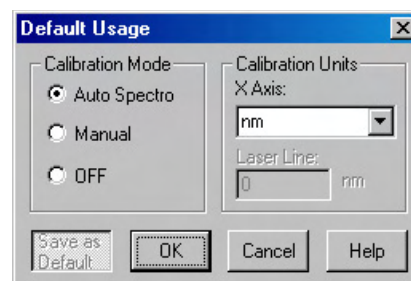

Figure 64. Calibration Usage dialog box
1. Select **Usage** from the Calibration menu. The dialog in Figure 64 will be displayed.